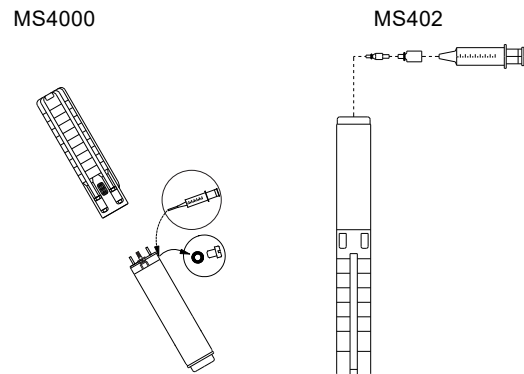

Fig. 3 Motor position during filling - MS4000 and MS402
1. Position the submersible pump as shown in fig. 3. The filling screw must be at the highest point of the motor.
3. Inject liquid into the motor with the filling syringe until the liquid runs back out of the filling hole. See fig. 3.